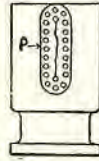

Fig. 26
A small hole should be drilled at each end of the crack, or a little beyond it (Fig. 26), for the crack may go farther than is visible to the eye. A quarter-inch hole should be drilled and tapped, and a screw inserted and screwed home, and the end filed off flush with the metal. Then a piece of stout sheet copper (P) (not less than 1/12" thick) should be cut out, covering the crack extending about 3/4" all around. This must be bent to fit the cylinder and fixed down with a number of 3/16" or 1/4" screws. Put a piece of canvas smeared with red lead, putty, or thick oil paint under the copper. The patch may leak a little at first, but will probably "take up" in a few days.